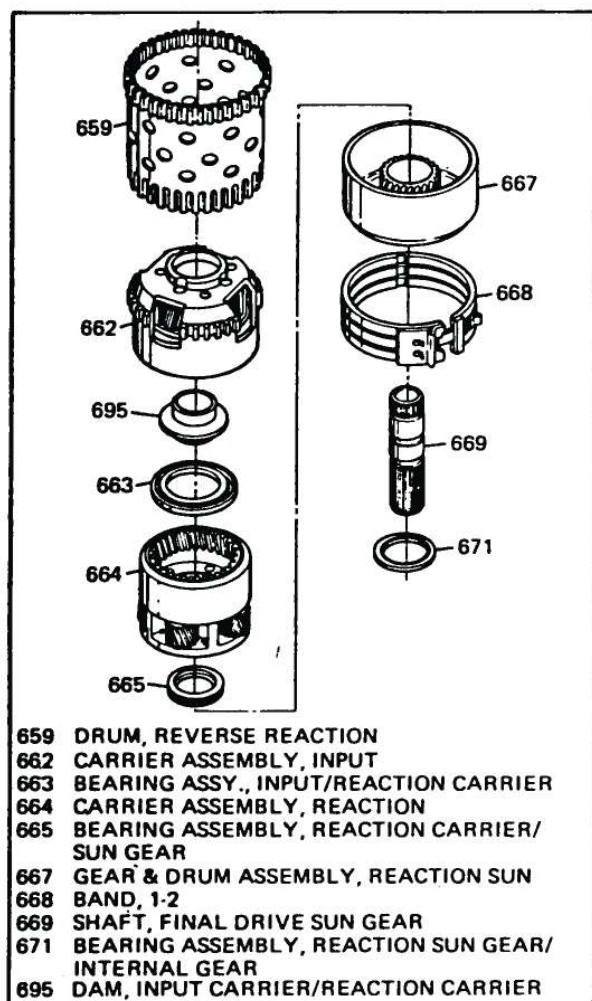

Figure 69
2. Install bearing assembly (665) in reaction carrier, with inside race against carrier, and retain with petrolatum.
5. Install bearing assembly (663) in input carrier, with inside race against the carrier, and retain with petrolatum.
7. Refer to Figure 69.